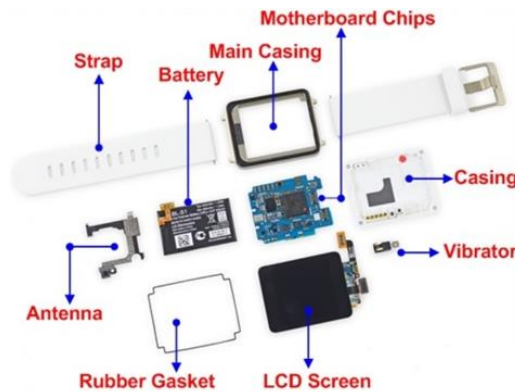

Figure 1(a) Internal structure of digital smartwatch.
- a) “An embedded system can be a very small piece of electronic circuitry that performs a specific function within a larger system”. Describe how a digital smartwatch can be an example of embedded systems applications using the diagram shown in Figure 1(a).